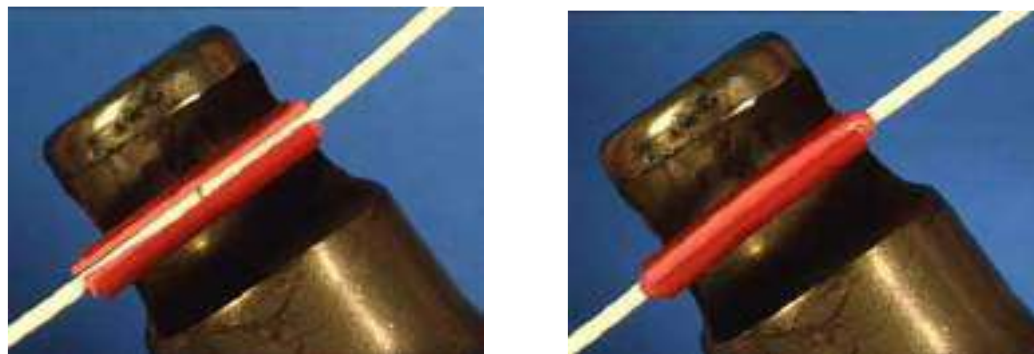

Figure 160
2. Center the sleeve in the reflector (Figure 160). Apply heat until the insulation tubing shrinks and the adhesive sleeve has melted and flowed. Continue heating for 3-5 seconds before terminating the heating.